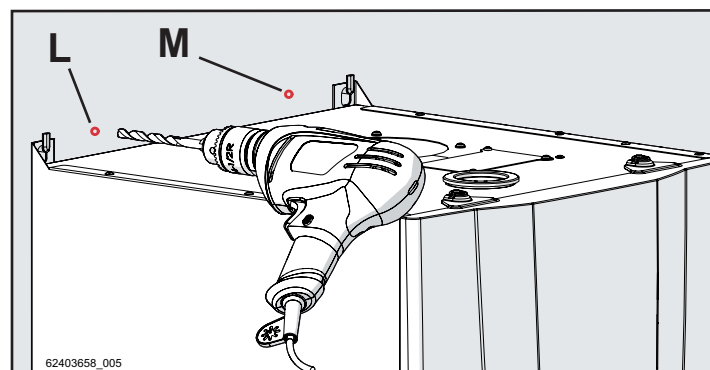

Figure 5-26
- 3 - Remove the template and upper fixing bracket, and drill the holes marked out previously, as shown in figures 5-26 and 5-27;